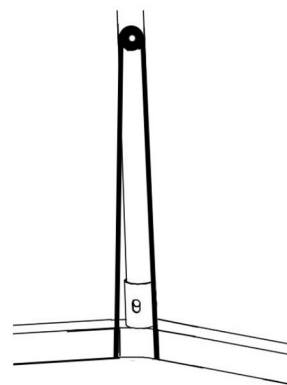

Figure 11 B Bottom Bungee
Step 11. Once the zipper is completely closed and the fabric is even with the top of the roof main frame and the buckles line up with the uprights and the roof ribs you can begin connecting all the bungee as seen in Figure 11 A and 11 B Connect one bottom bungee then the corresponding top bungee until they are all connected.